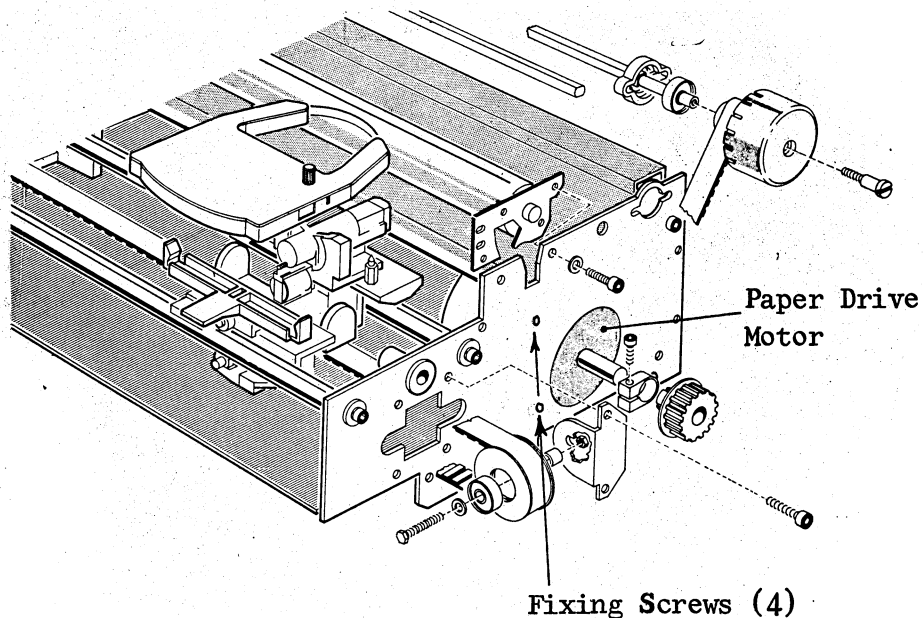

Fig. 7-15 Paper Drive Motor Localization for the Mina Mechanics
- Remove the 4 screws fixing the motor to the right-hand support assembly of the unit (fig. 7-15)